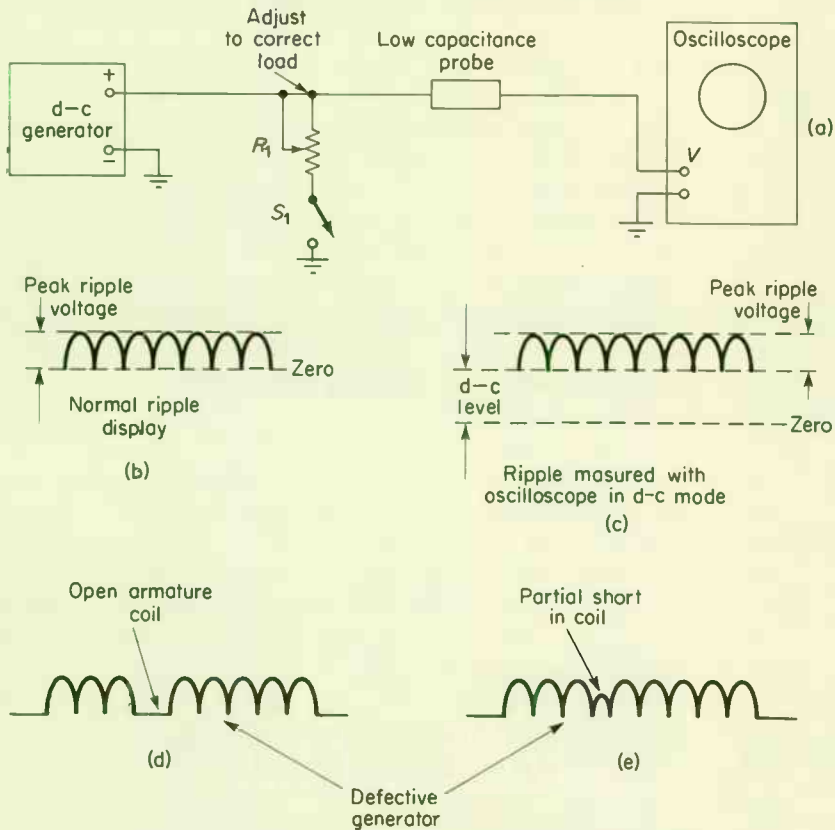

Fig. 12-16. Measuring generator ripple with an oscilloscope.
1. Connect the equipment as shown in Fig. 12-16.